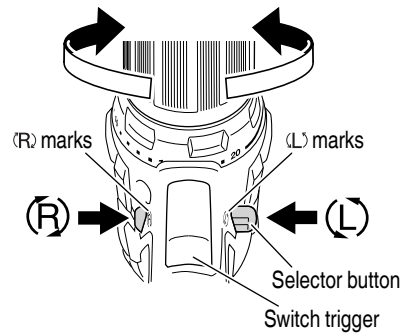

Fig. 8
The L-side of the selector button is pushed to turn the bit counterclockwise (See Fig. 8). (The (L) and (R) marks are provided on the body.)